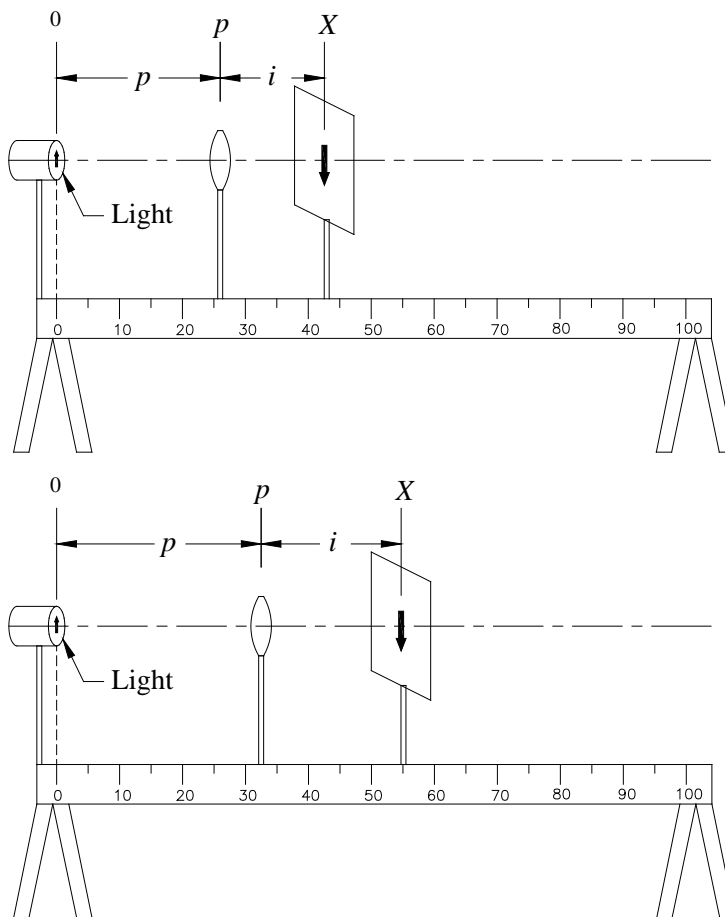

Figure 4 Diagram showing how the lens position should increase as the screen moves to the right.
uncertainty in p as you did in (1). (As the object distance changes, so will your ability to determine the position of best focus. Thus, the uncertainty in p will also change.) Continue moving the screen towards the light source in 5cm increments until the lens no longer forms a sharp image on the screen. When you get to a screen position of 40.0cm use 41.0cm instead. At this point (around 40cm), you will need to move the screen away from the light source to 45cm. Again move the lens **away from the light source** (p should be increasing from before) to form a sharp image on the screen. See Figure 4. Record the position as before. Continue moving the screen away from the light source in 5cm increments and adjust the lens to get the sharpest image. Record data as before until the screen is back at 100.0cm. When you are done, you should have at least 25 data points. If you don't, go back and fill in some extra points until you have a total of 25 measurements.